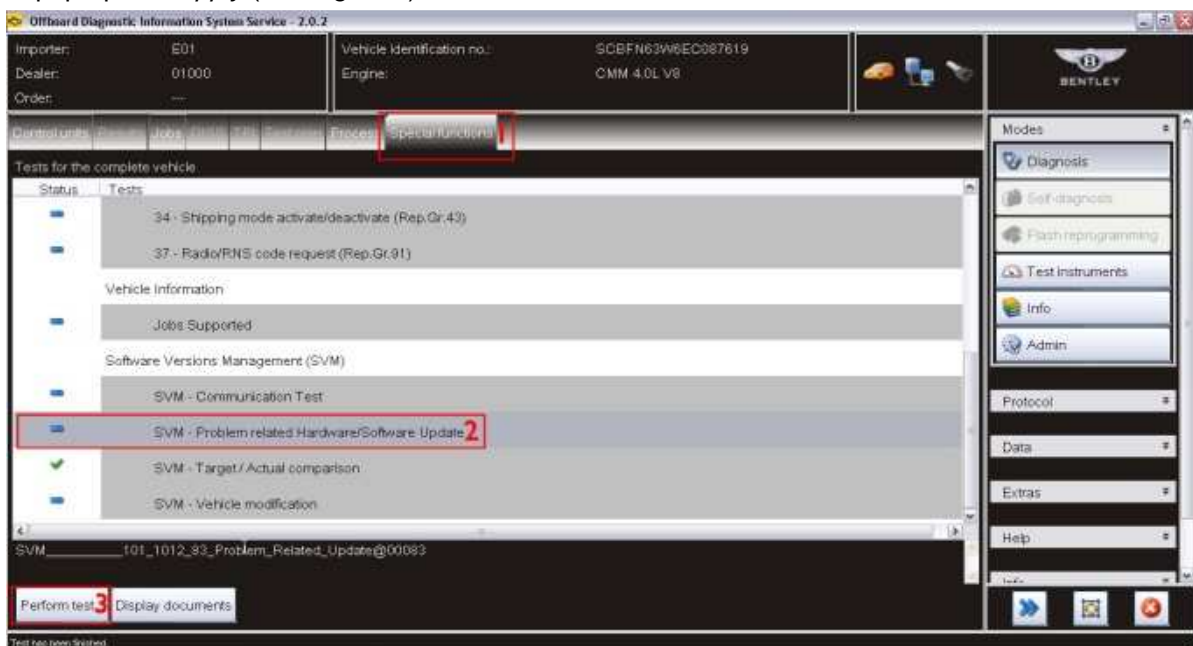

Figure 2
9. Select *Special functions* (1), Select *SVM – Problem related Hardware/Software Update* (2), Select *Perform test* (3) (see Figure 2)